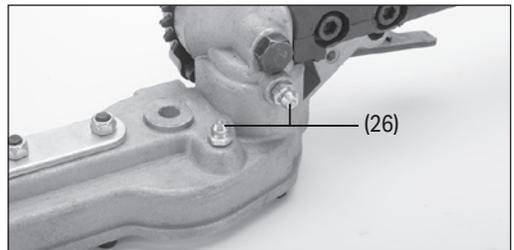

Fig.27
1. Remove the fuel tank cap (5) from the fuel tank.
2. Drain the fuel tank (6) completely.
10.7 Gearbox Lubrication (Fig.27)